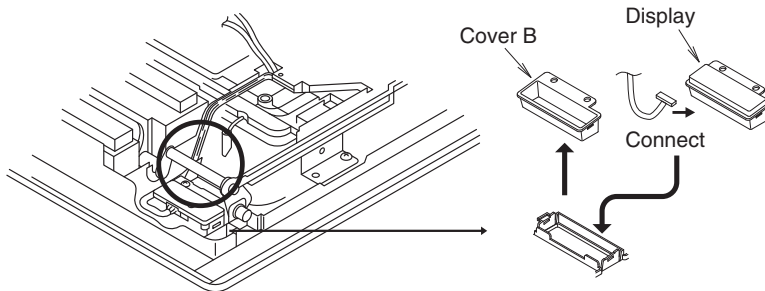
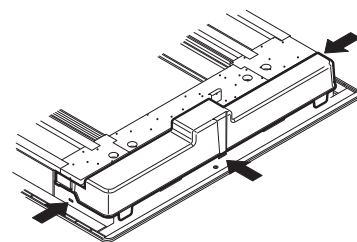

Fig. 8-17
Fig. 8-18
- (1) Cover B is fitted inside cover A, so remove the 1 screw and detach it by pressing on it from the front side of the panel. (Fig. 8-17)
- (2) Connect the wiring (W2) for the display that is sticking out from the operation panel and fit the display into the panel. Make sure the 6P white connector is firmly connected all the way in.
- (3) Bend the lead wire of the display into shape so it does not come in contact with the louver shaft. There is a groove in the circled part in diagram 3 that is for passing wire through; press the lead wire into this groove so there is no slack in it.
- (4) Attach cover A. When doing so, press it securely into the place indicated by the arrow in Fig 8-18.
- (5) Shape the lead wire of the operation panel appropriately and fasten it with the enclosed plastic clamp.
- (6) Install the ceiling panel.